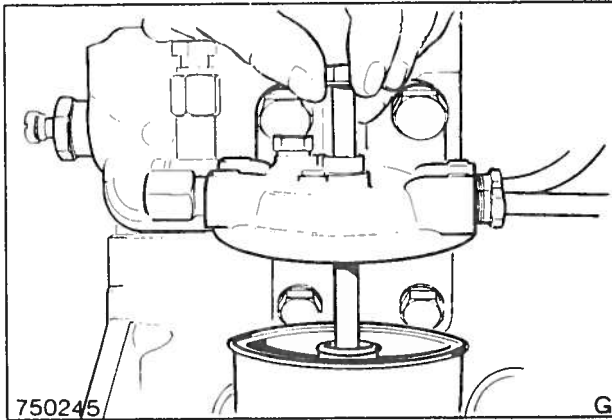

Fig. 37 Removing the fuel filter element
1. Remove the centre bolt/s from the filter/s and detach the filter bowl assembly/ies (Fig. 37).